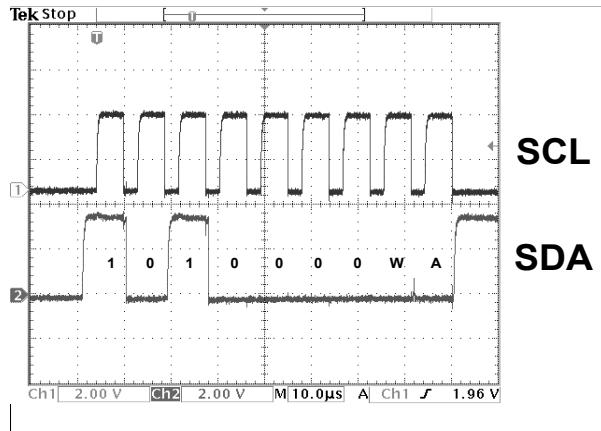

Figure 23. Slave Address + WRITE
Figure 23 shows the bus state as the 7-bit Slave Address, the R/W signal, and the ACK signal are transmitted across the bus.
Keep in mind that SDA data is valid on the rising edge of SCL and stays valid until the next falling edge of SCL. During the first 7 cycles in Figure 23, the Slave Address (0xA0) is transmitted MSB-first from the Master to the Slave. During cycle 7, the Master indicates that this transfer is a WRITE (1). In the last cycle, the Slave sends an ACK by holding the SDA signal LOW.